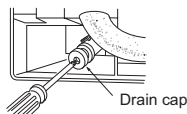

Fig. 3
- 4) Put the drain cap into the section to which the drain hose is to be attached at the rear of the indoor unit. (Fig. 3)